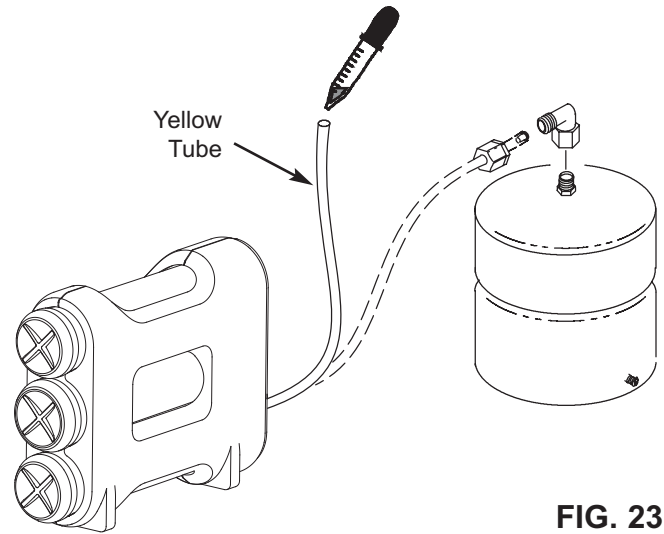

FIG. 23
Sanitizing is recommended immediately after installation of the Reverse Osmosis system. It's also recommended after servicing inner parts. It is important that the person installing or servicing the system have clean hands while handling inner parts of the system. Complete the following steps to sanitize the system. See Fig. 23.
4. Add 3 ml. of bleach into open end of yellow tube. Handle bleach according to bleach manufacturer's recommendations. See Fig. 23.